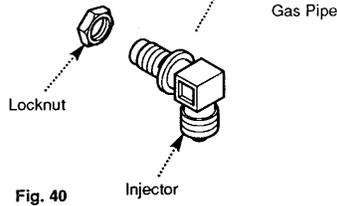

Fig. 40
6. Undo the injector locknut and remove the injector from the burner tray by disengaging the gas pipe from the injector (Fig. 40).
7. Examine and clean the injector. Do not use any hard tools such as pins or wire. Renew if necessary (Fig. 40).